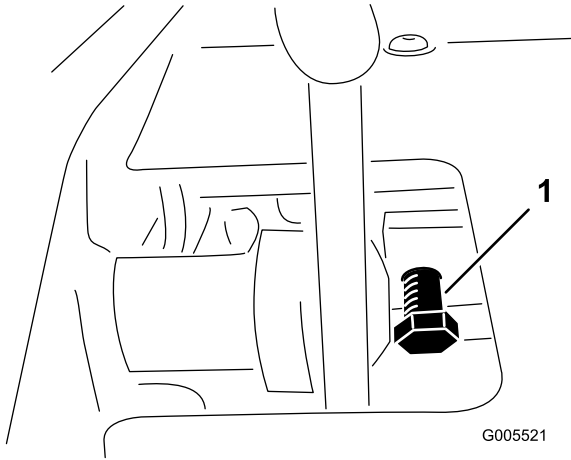

Figure 53
1. Loosen the jam nut on the pedal lock bolt (Figure 53).